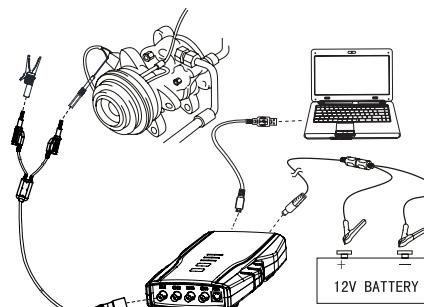

Fig. 42: Equipment connection
- Connect equipment according to Fig.42 switch on power supply.